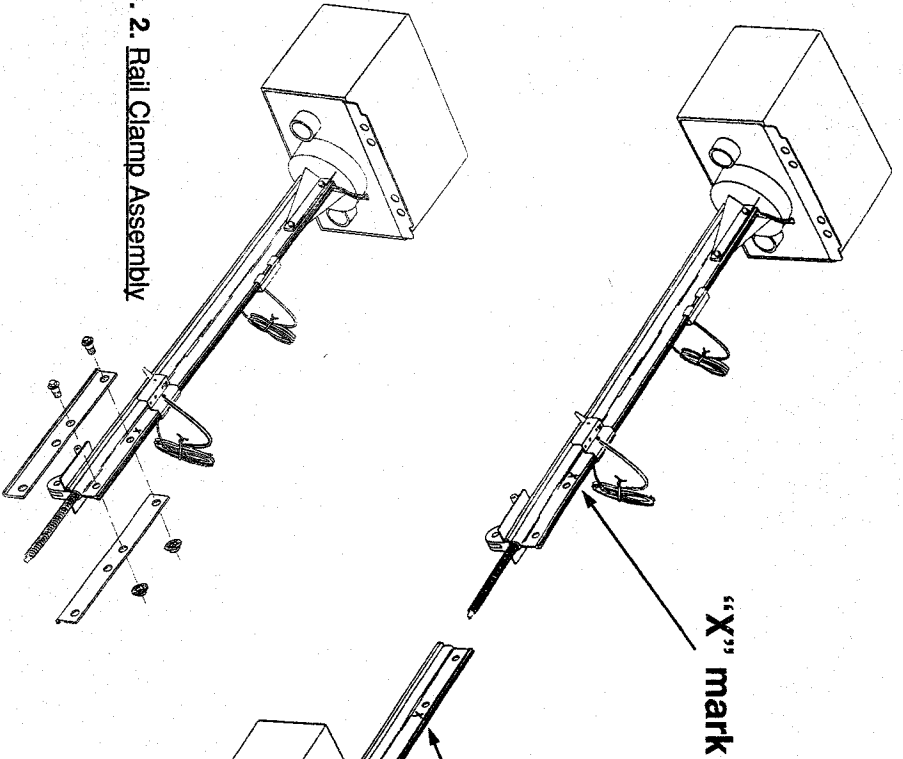

Fig. 2. Rail Clamp Assembly
**2 ATTACH RAIL CLAMPS TO END OF POWER UNIT RAIL.** (Fig. 2)